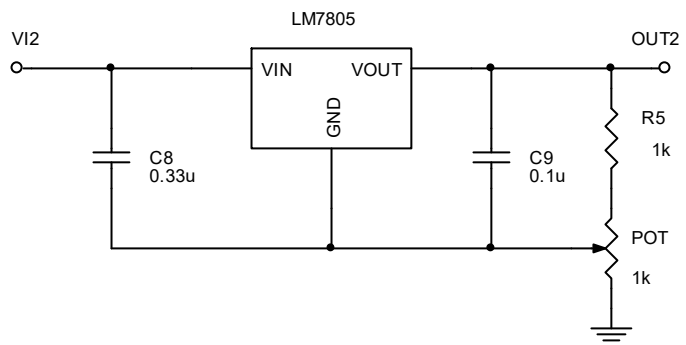

Fig.4. Voltage regulator with variable output
- For the circuit in Fig. 4., compute the minimum and maximum values of the output voltage V_O .
- Build the experimental schematic in Fig. 4. (in the upper right corner of the schematic) by applying the input voltage in the point *VI2*.